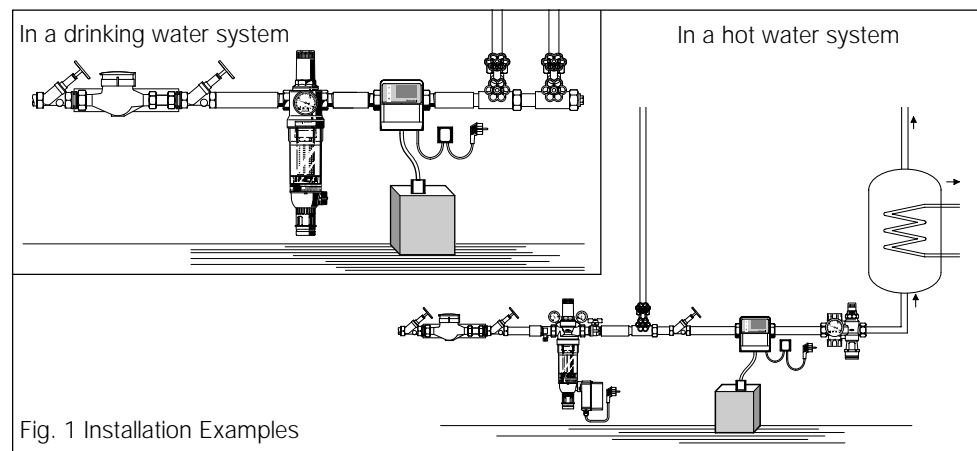

Fig. 1 Installation Examples
- On the horizontal pipework directly on the water meter (Fig.1).